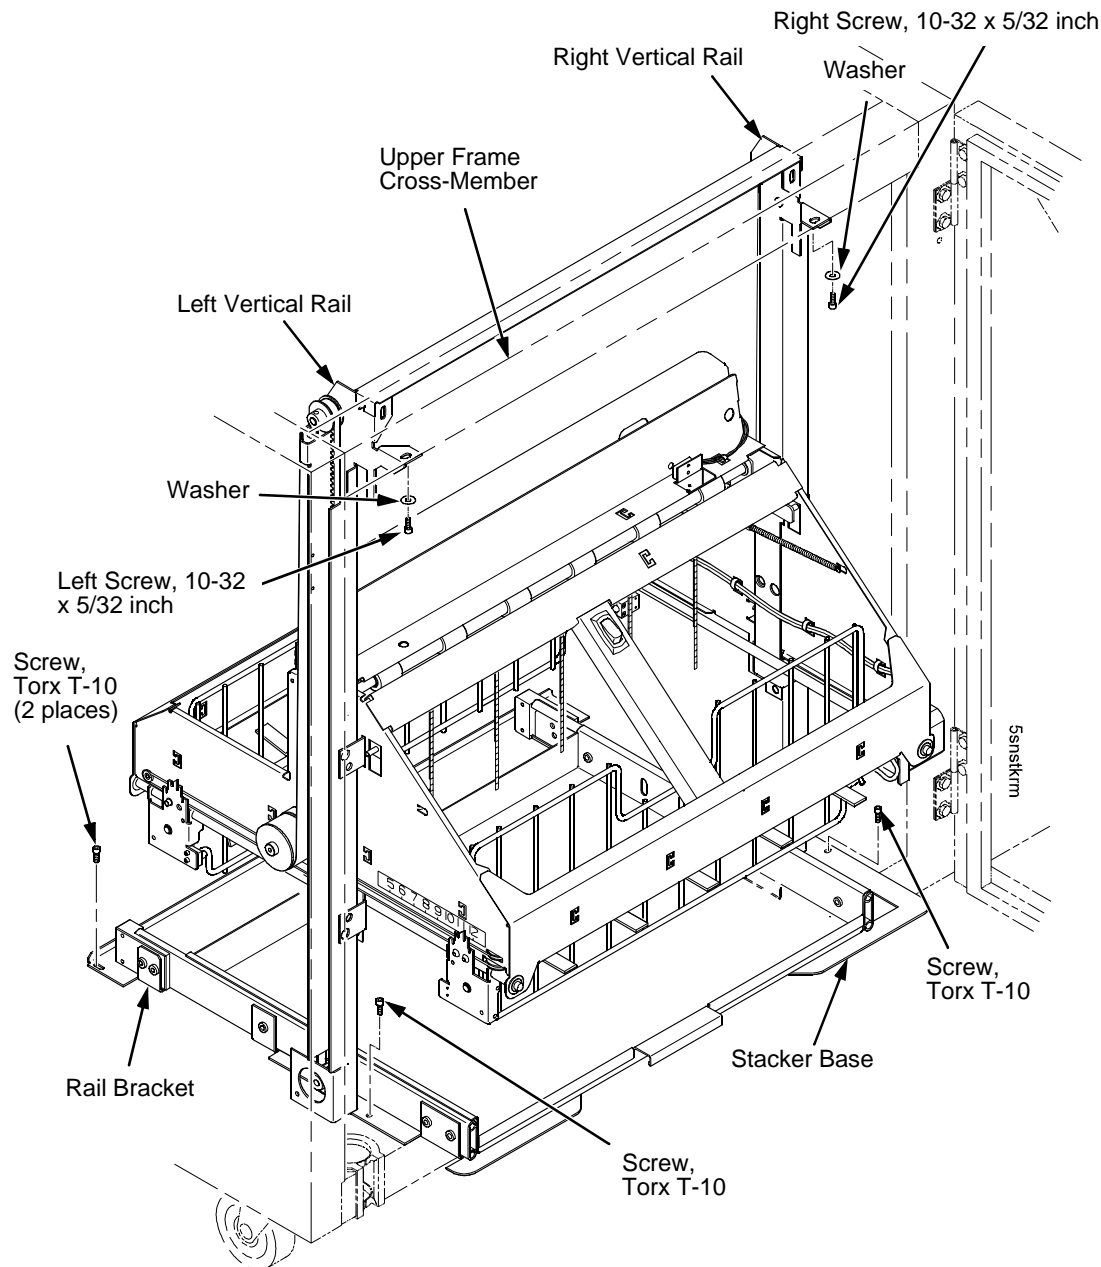

Figure 79. Stacker Fasteners
20. Align the holes in the vertical rail brackets with the holes in the upper frame cross-member. (Figure 78c and Figure 79.)
21. Align the holes in the stacker base with the holes in the cabinet floor. (Figure 78c and Figure 79)
22. Install finger tight the 10-32 x 5/32 inch buttonhead screw and washer securing the left vertical rail to the upper frame cross-member. (Do not install the right hand screw yet.) (Figure 79.)
23. Install and tighten the two Torx T-10 screws securing the stacker base to the cabinet floor. (Figure 79.)
24. Install and tighten the two Torx T-10 screws that secure the rail bracket to the cabinet floor. (Figure 79.)
31. Install finger tight the 10-32 x 5/32 inch buttonhead screw and washer securing the right vertical rail to the upper frame cross-member. (Figure 79.)